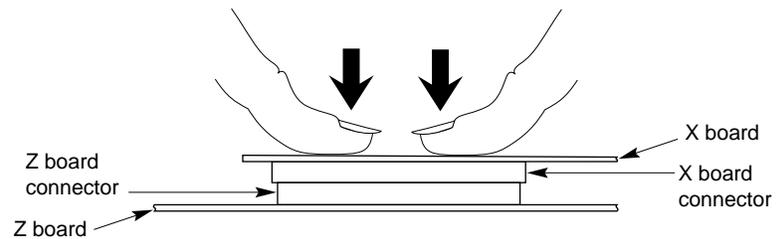

Figure 2-23 Seating the X Board's Connectors
6. Press to seat the X board's connectors into the Z board's connectors, as shown in Figure 2-23.
- Before attaching the screws to the rear of the workstation, check that the screwholes on *top* of the board are lined up directly above a matching standoff screw on the board below. (See Figure 2-23.)